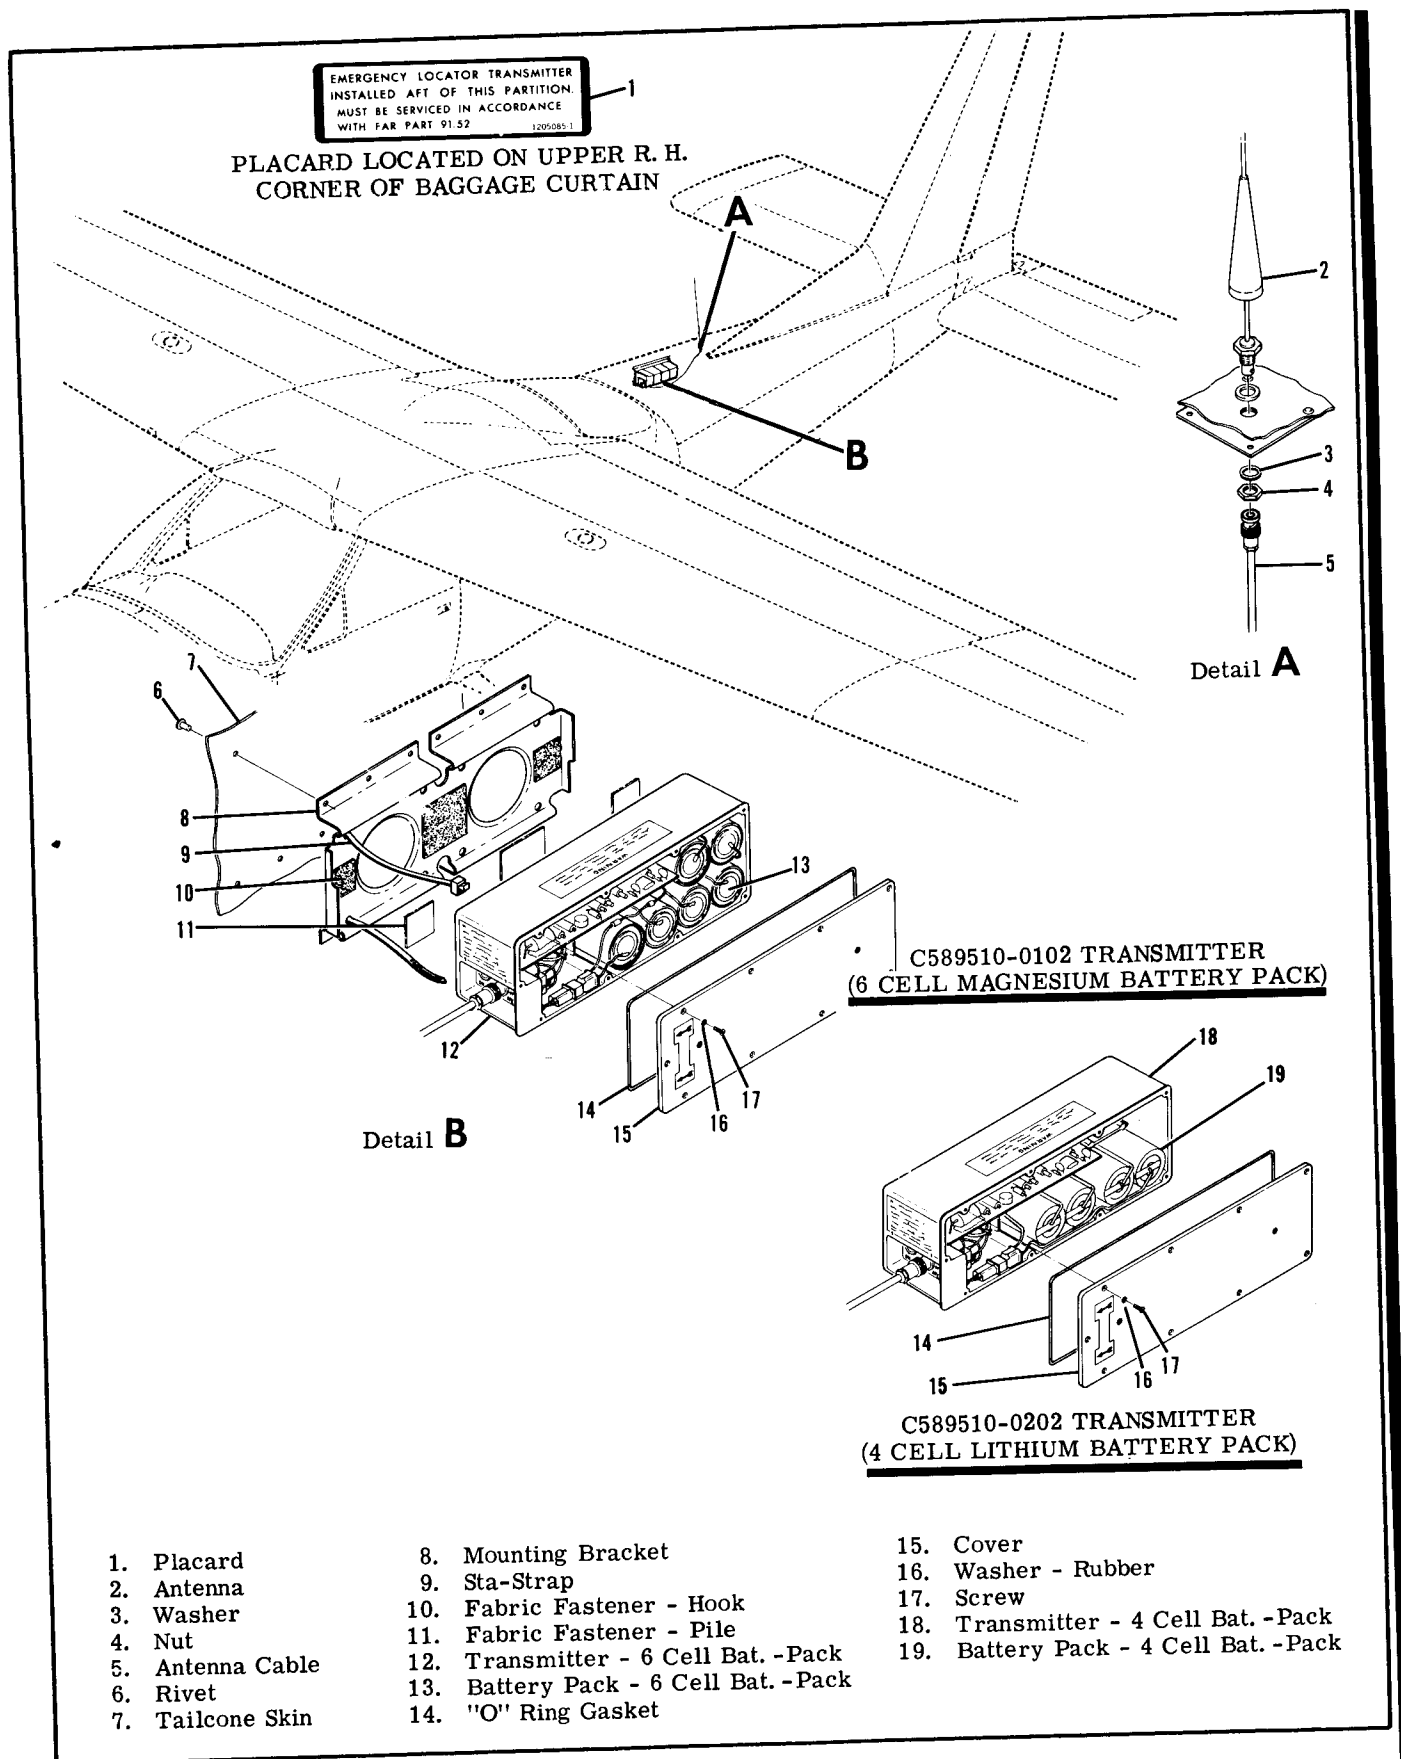

Figure 16-14. Emergency Locator Transmitter Installation
16-92. REMOVAL AND INSTALLATION OF TRANSMITTER. (Refer to figure 16-14.)
- c. When replacing the battery-pack with another 6 cell battery-pack which has a plastic connector attached to the battery leads, merely disconnect the old battery-pack and replace with a new battery-pack, making sure the plastic connectors are completely mated. (Refer to figure 16-14.)